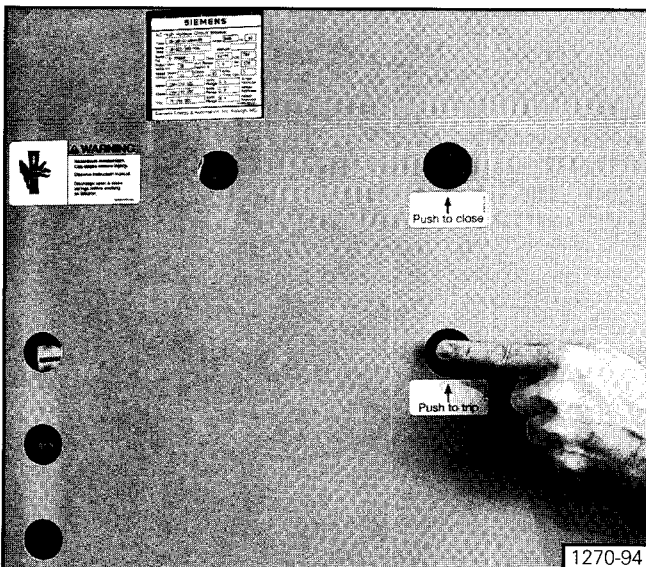

Figure 32. Manual Tripping of Circuit Breaker
1. The first step is to de-energize the circuit breaker. **Figure 32** illustrates the location of the trip control on the circuit breaker operator panel. Depressing the Trip pushbutton opens the breaker prior to removal from the switchgear.
4. Perform the spring discharge check. This is done by first depressing the red Trip pushbutton. Second, depress the back Close pushbutton. Third, depress the red Trip pushbutton again, and observe the spring condition indicator. It should read Discharge. **Figure 32** shows the breaker spring condition indicator in the Discharged position.